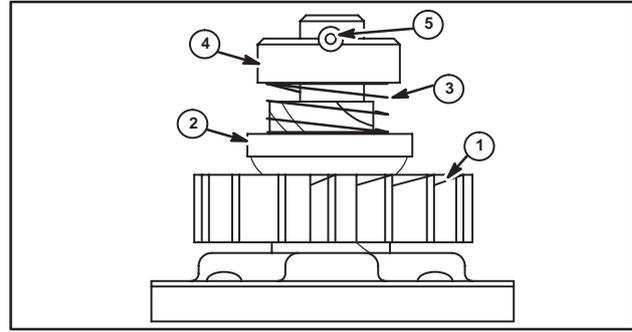

Fig. 66
1. Assemble pinion gear with beveled edge on the gear (1) up as shown in Fig. 66.
2. Assemble cup (2) and spring (3) on gear if original assembly was so equipped, and fit retainer (4) on shaft.
3. Drive new roll pin (5) through retainer slot and armature shaft hole. The roll pin should be centered in shaft within 1/32" (.8 mm). Assemble with new roll pin only.